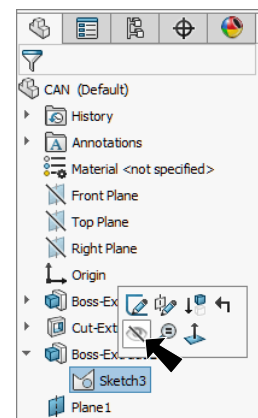

Fig. 31
Step 5. **Hide Sketch3.** To hide, expand Boss-Extrude2 in the Feature Manager, click **Sketch3** and **Hide**  on the context toolbar, **Fig. 31**.